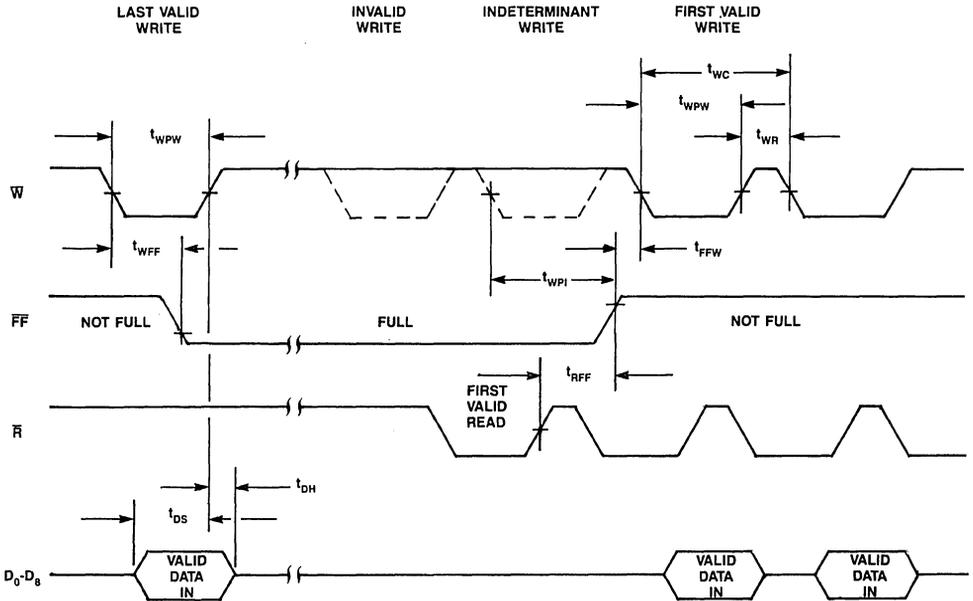

Figure 3. Write and Full Flag Timing
The MK4503 initiates a Write Cycle (see Figure 3) on the falling edge of the Write Enable control input (\overline{W}), provided that the Full Flag (FF) is not asserted. Data set-up and hold-time requirements must be satisfied with respect to the rising edge of \overline{W} . The data is stored sequentially and independent of any ongoing Read operations. \overline{FF} is asserted during the last valid write